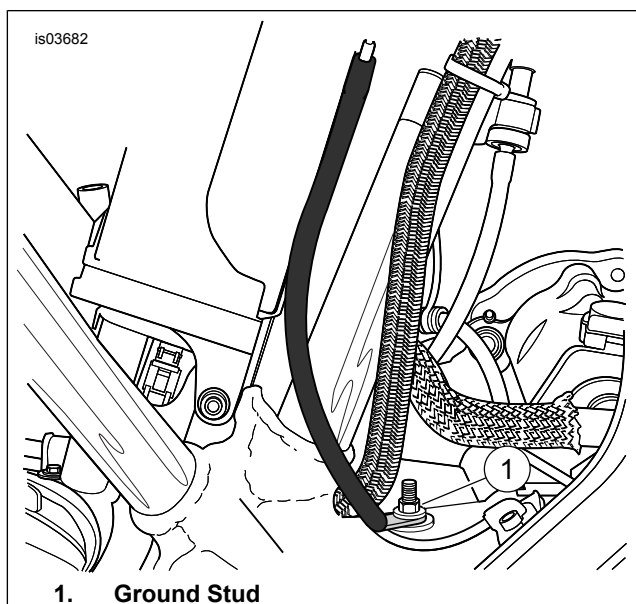
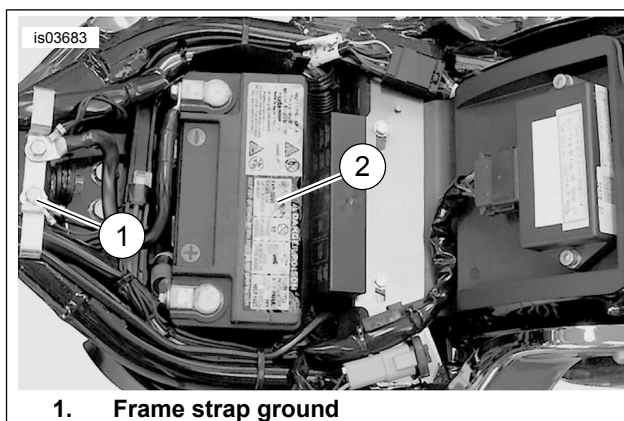
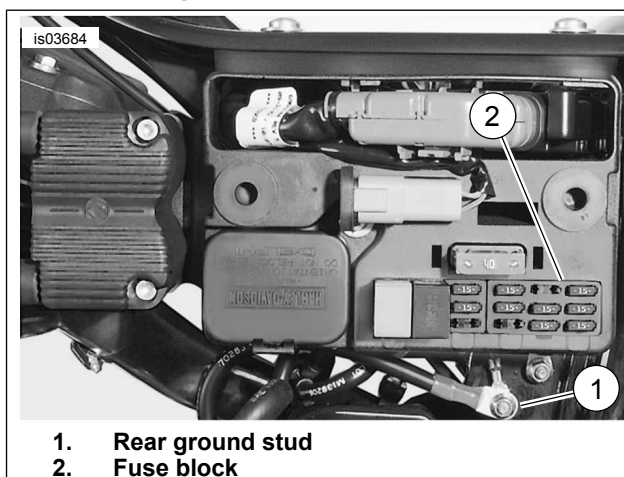
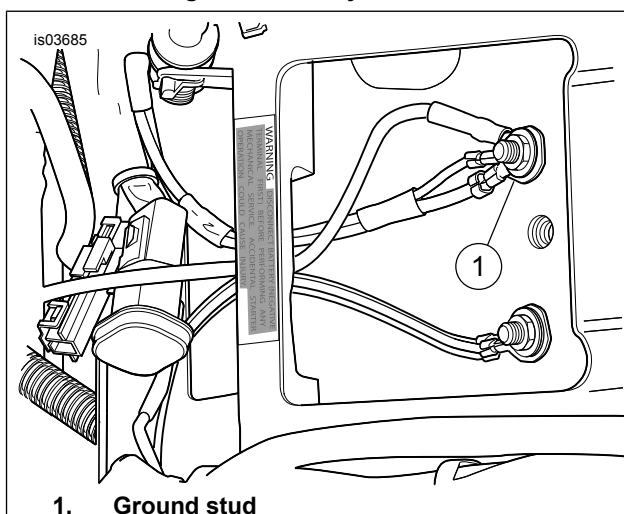

Figure 6. 2004 XL Custom
Figure 7. 2004 Softail Ground
Figure 8. 2004 Dyna Ground
Figure 9. 2004 FLHR Ground
For FLHR/C/I: See Figure 9.
1. Route the ground lead (BK) to the ground location for the model. **For XL:** See Figure 6. To the ground stud (1) on the engine/transmission case. **For XL:** See Figure 7. On the frame strap (1) under the seat directly in front of the battery (2). **For Dyna:** See Figure 8. At either of the rear ground studs (1) under the fuse block (2). **For FLHR/I:** See Figure 9. Under seat directly in front of battery (1).
2. Determine the length for the ground (BK) lead and cut the lead.
4. Select the ring terminal that fits the ground stud or bolt for the model and crimp the ring terminal on the ground lead (BK). **For XL:** 1/4 inch ring terminal **For Softail:** 1/4 inch ring terminal **For Dyna:** 5/16 inch ring terminal **For FLHR:** 1/4 inch ring terminal